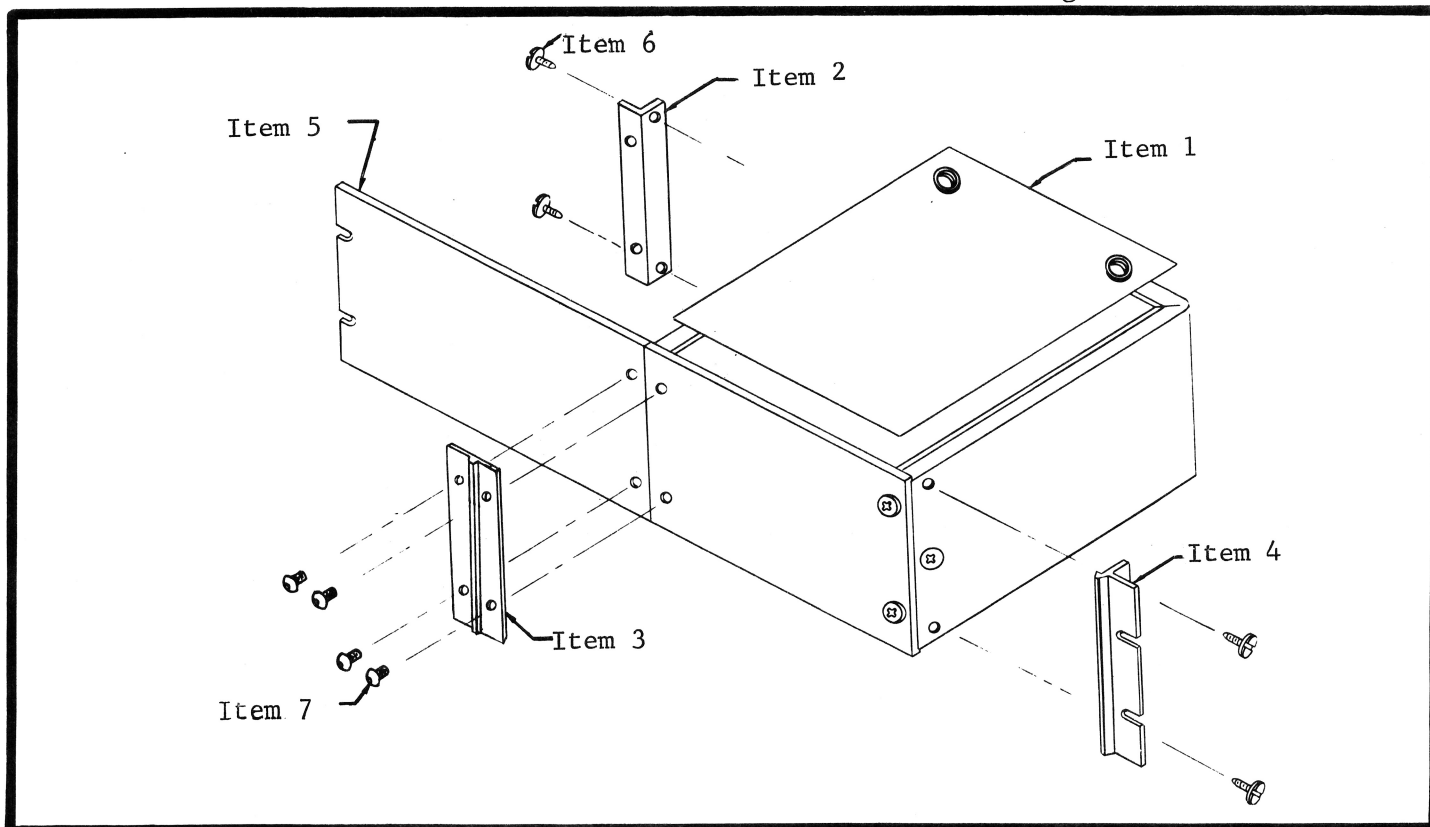

FIGURE 21. Exploded View of Model 4003A Rack Mounting Kit. Refer to Table 7 for parts list.
b. Procedure. Remove the wrap-around cover on the Supply by removing the two corner screws at the bottom of each side. Add the rack mounting parts to the Supply as shown in Figure 21. Attach in this order: cover (1), rack angle (4), panel support angle (2), rack adapter panel (5), and chassis connecting plate (3).